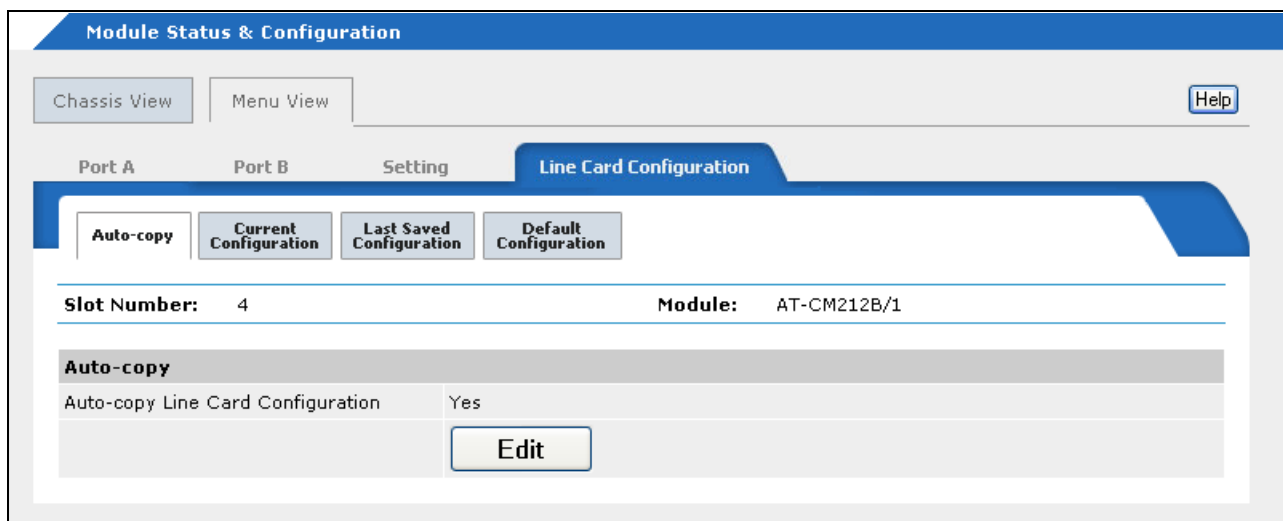

Figure 61. Auto-copy Tab
4. Select the **Auto-copy** tab, shown in Figure 61.